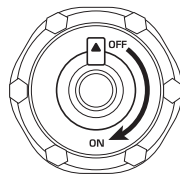

Fig. 3
7. After the generator stops, allow it to cool down and close the air vent on the fuel cap (set to OFF, as shown in fig. 3).